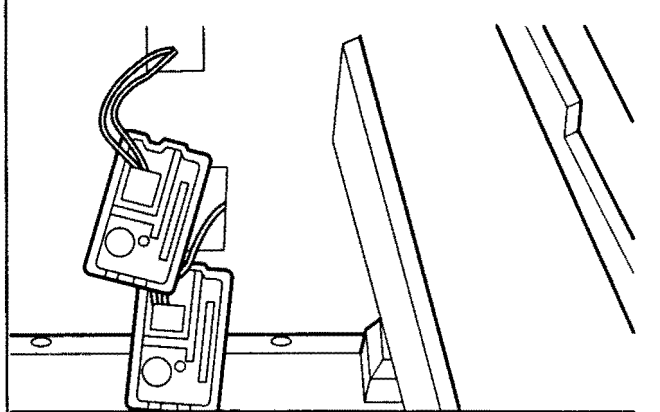

Figure 2-17. Thermistors In Reed Switch
- 2. Thermistors are located in each reed switch behind the drawer assemblies of each compartment (Figure 2-17). To replace the thermistor the complete reed switch assembly must be replaced. Simply remove the reed switch mounting screw, tilt the top of the reed switch assembly forward and disconnect the electrical connector.
5. Remove both reed switches by unscrewing the mounting screw, tilt the top of the reed switch assembly forward and disconnect the electrical connector (Figure 2-17).
4. Remove both reed switches by unscrewing the mounting screw, tilt the top of the reed switch assembly forward and disconnect the electrical connector (Figure 2-17).
6. Remove both reed switches by unscrewing the mounting screw, tilt the top of the reed switch assembly forward and disconnect the electrical connector (Figure 2-17).